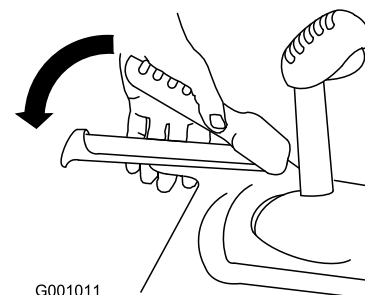

Figure 15
1. To engage the traction drive, squeeze the left (traction) lever to the handgrip (Figure 15).